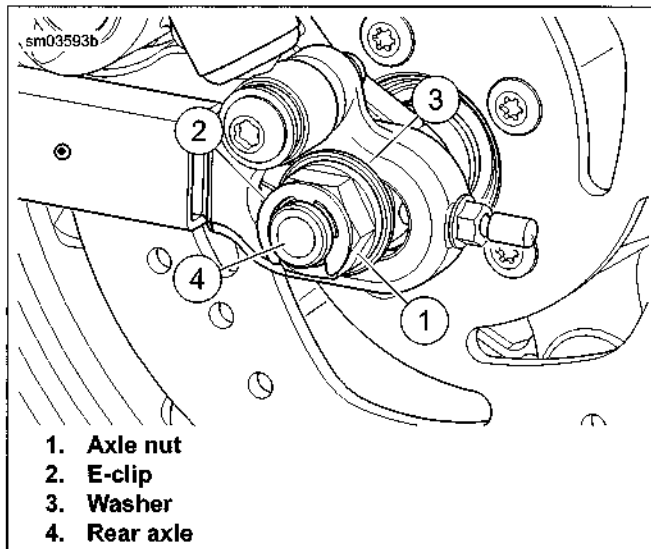

Figure 2-17. Rear Wheel Mounting
4. See Figure 2-17. Remove E-clip (2), axle nut (1) and washer (3).
6. Gently tap end of axle (4) with a soft hammer to loosen. Pull axle free of rear fork assembly.